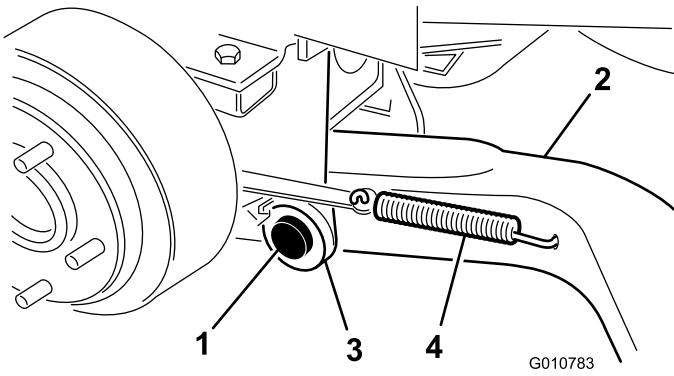

Figure 4
4. Mount a lift arm (with the ball joint end positioned outward) to the pivot bracket with a pivot pin and a cotter pin (5/32 x 1-3/4 inches) (Figure 4).
6. Hook the brake return spring to the hole in the lift arm (Figure 4).